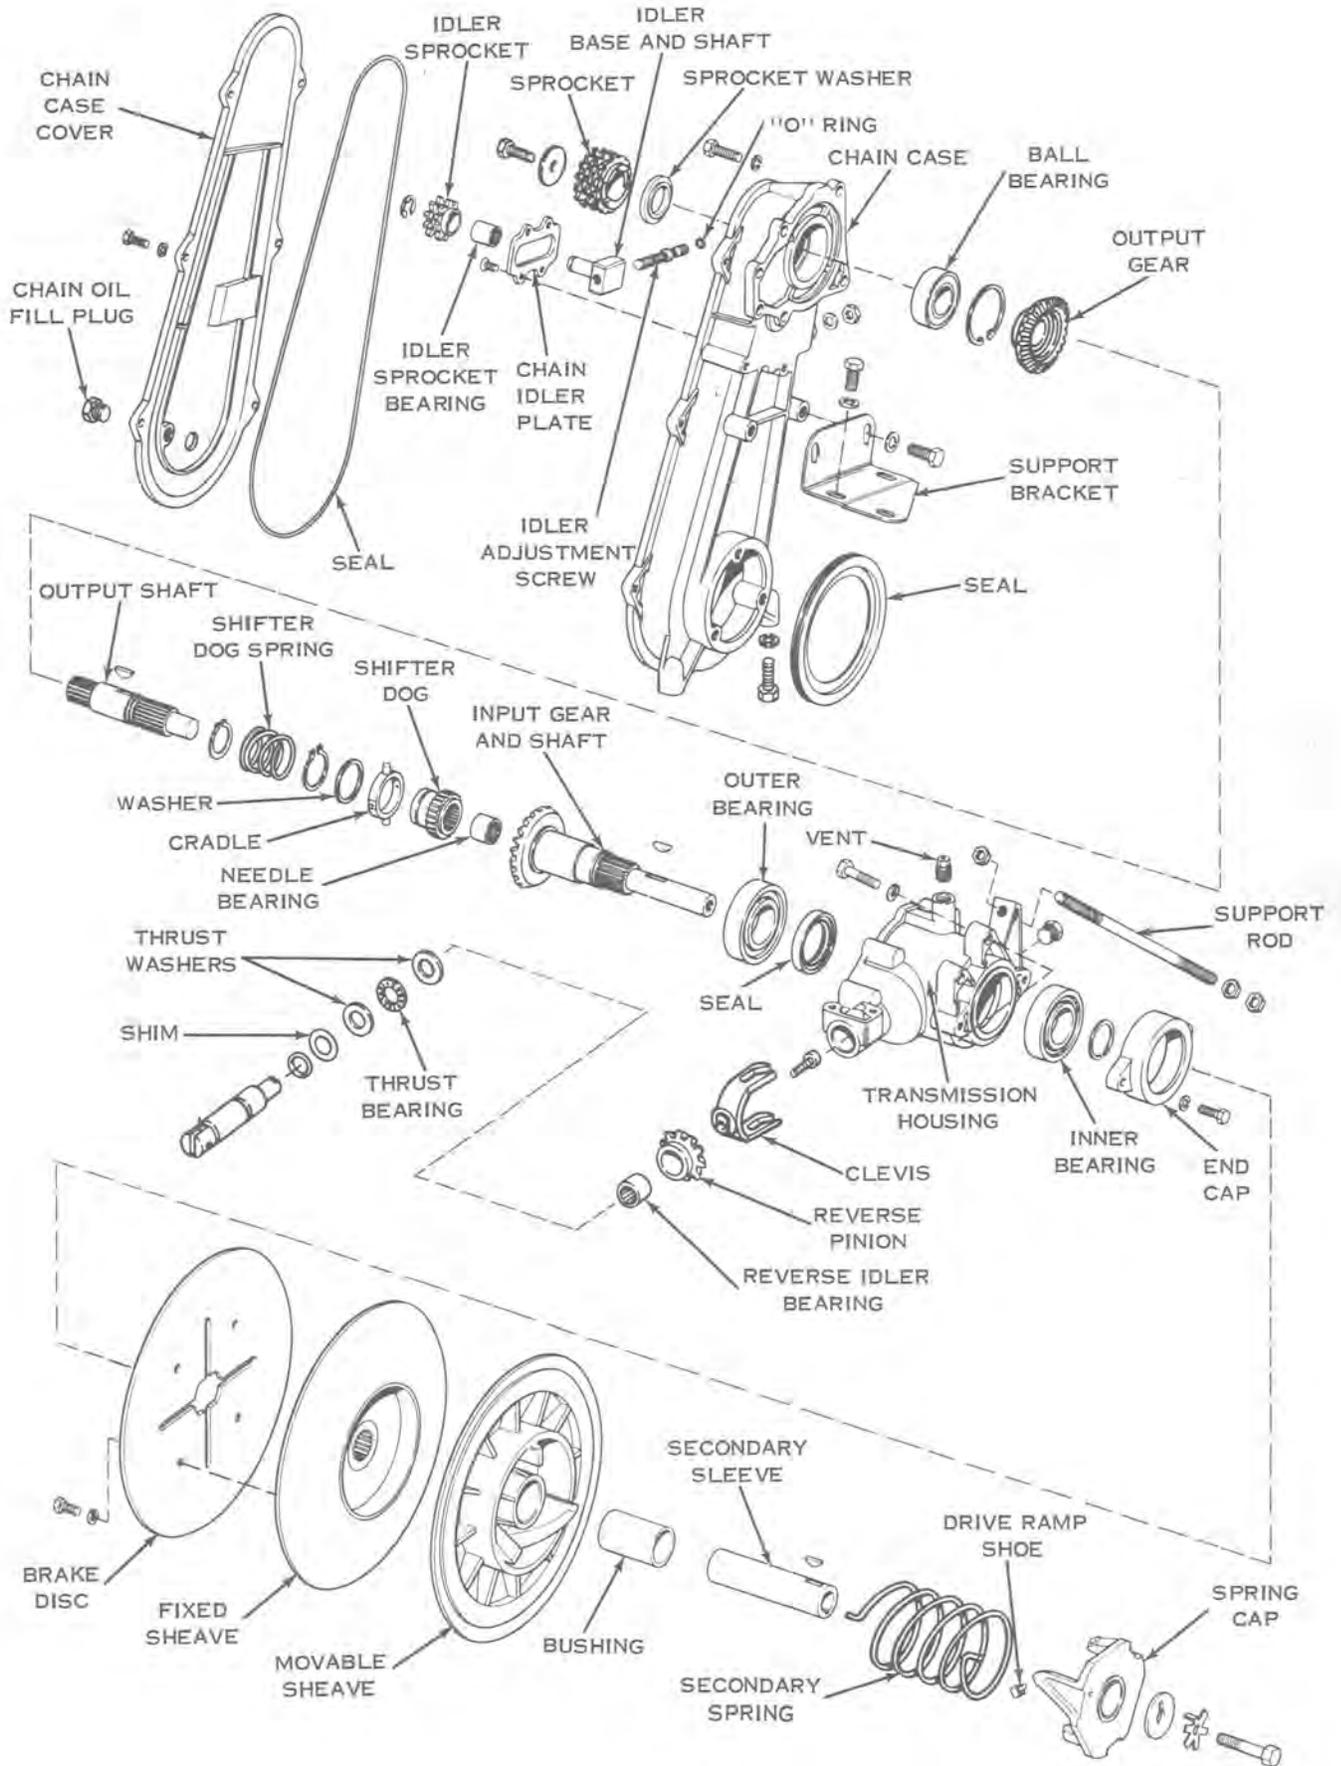

Figure 10-13
- c. Remove screw, tab lockwasher, secondary washer, spring cap, spring, and sleeve. See Figure 10-13.
- b. Assemble Secondary sheave assembly on transmission input shaft in reverse order of disassembly. Engage spring ends in holes in movable sheave and end cap. Preload spring by holding end cap stationary and rotating movable sheave clockwise to engage next ramp on end cap (approximately 1/3 turn). See Figure 10-13. Torque sleeve screw to 00-00 ft. lbs. torque and secure with lock-washer tabs.
- a. Install input shaft and gear. Use Loctite bearing mount on the O.D. and I.D. of the sealed bearings, see Figure 10-13.